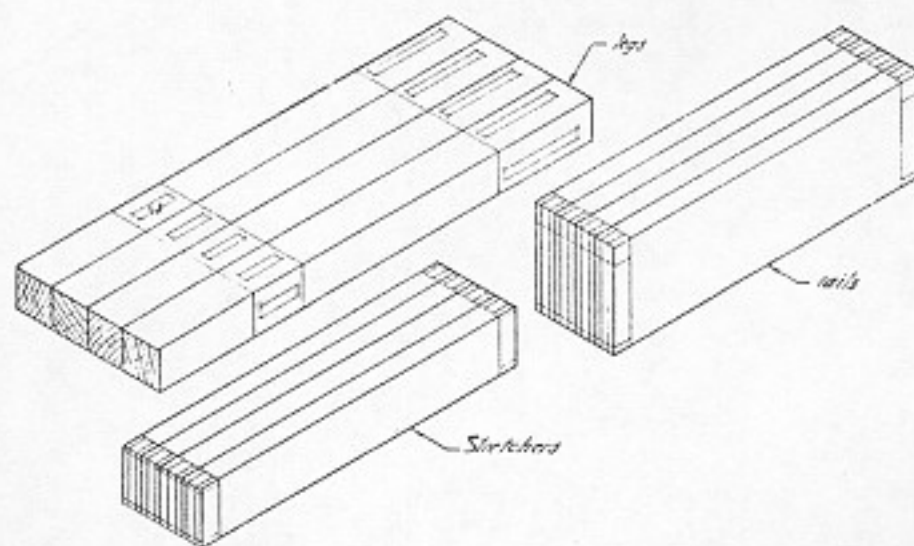

Fig. 240. Layout of mortises and tenons for small table.
7. In mortise-and-tenon construction there usually are several joints of the same dimensions to be made. In order to make a good job, *all these joints are laid out at the same time before changing the setting of the gauge* (Fig. 240).